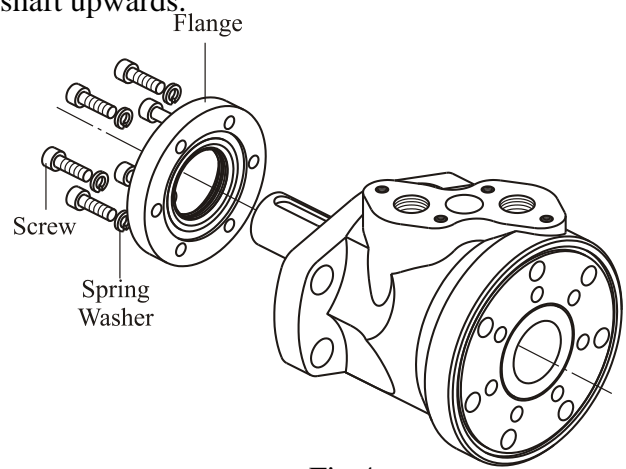

Fig.4
8. Unscrew screws M5 using S5 Allen head spanner (see Figure 4).